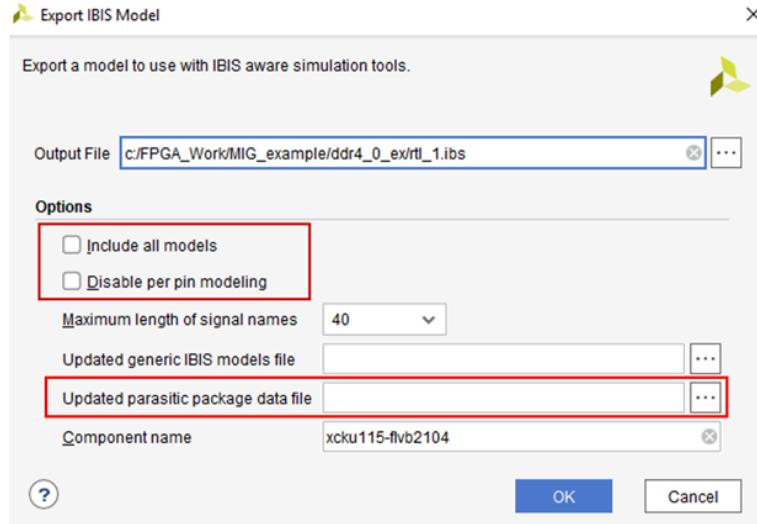

Figure 18: Export IBIS Model, Implemented Design
- Export IBIS Model (Figure 18)